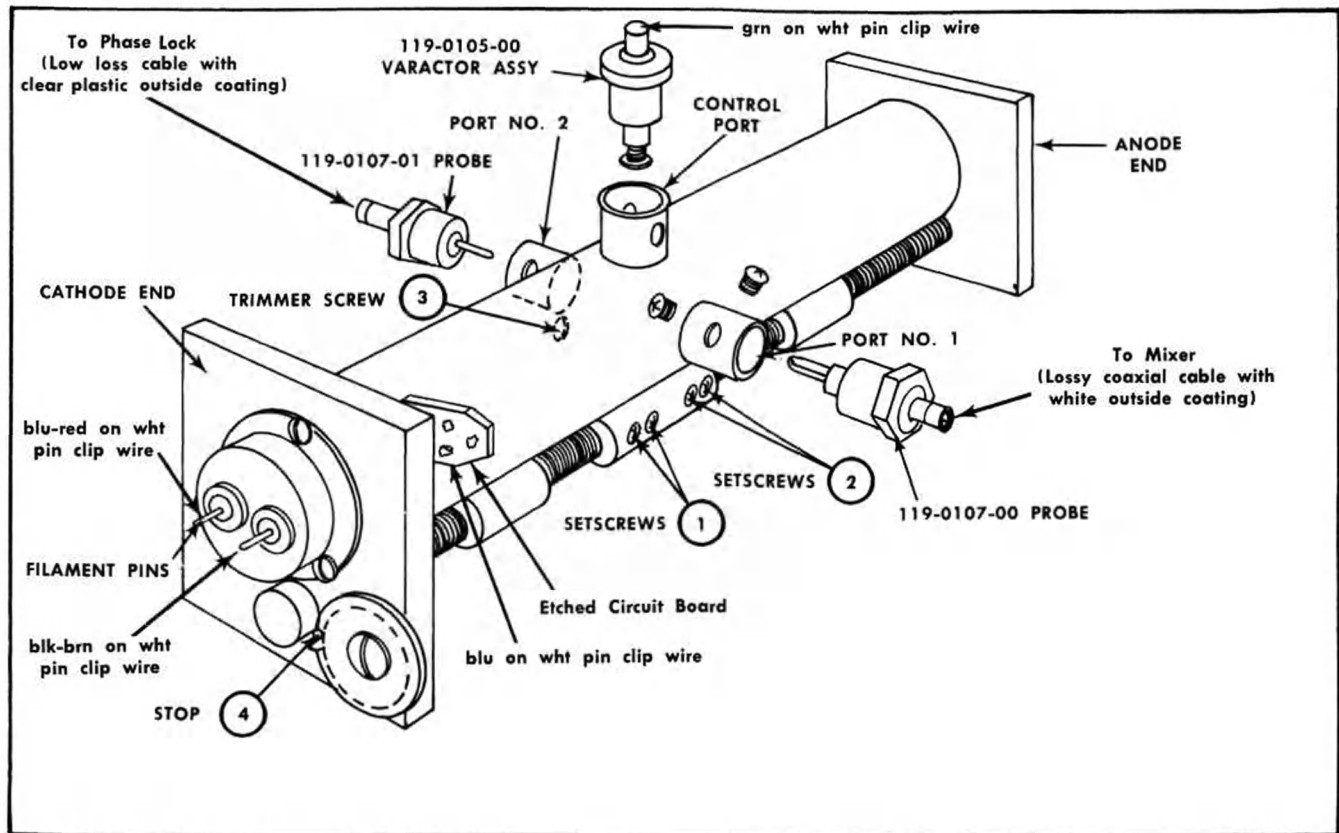

Fig. 4-3. Assembly alignment diagram.
1. Disconnect the four push-on clip wires and the two push-on coaxial cables, see Fig. 4-3.
Refer to Fig. 4-3 for the location of the sub-assemblies and ports. The oscillator assembly must be removed for calibration. The probe assemblies can be oriented within the magnetic field of the oscillator chamber by loosening set screws and positioning the probe in or out of the chamber or rotating the probe within the field.
This procedure should be used only after replacing the oscillator tube. Refer to Fig. 4-3 for the location of sub assemblies and ports. The oscillator assembly must be removed for calibration.
a. Install probe assembly (Part No. 119-0107-01 into the No. 2 port (Fig. 4-3). Position the probe assembly approximately  $1/16$  inch out from full penetration with the notch or keyway (DC return of the probe) towards the plate end of the oscillator assembly, and secure by tightening one of the two set screws.
b. Install probe assembly (Part No. 119-0107-00) into the No. 1 port (Fig. 4-3). Position the probe assembly approximately  $1/16$  inch out from full penetration with the notch or keyway towards the plate end of the oscillator assembly, and secure by tightening one of the two set screws.
i. Loosen the set screws (1) in Fig. 4-3, and position the plate choke for a frequency of 4.2 GHz.
j. Loosen the set screws (2) in Fig. 4-3, and position the cathode choke for maximum power output. Decrease probe coupling if power output exceeds 100 mW.
c. Install pinion gear so bent tooth of the spur gear makes contact with the set screw (4) Fig. 4-3, then tighten the set screw in the pinion gear.
b. Tune the dial to indicate 1.5 GHz. Adjust the trimmer screw (3) in Fig. 4-3, for an oscillator frequency of 1.7 GHz.